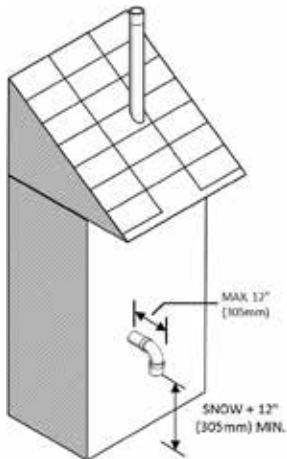

Figure 9: Rooftop vent terminal configurations
- The air intake pipe may terminate on the side wall of the building as long as the air intake terminal is turned down and the side wall of the building is not exposed to large wind loads i.e.: prevailing winds. (see Figure 9)
- You must maintain at least the minimum separation of exhaust vent termination from unit's intake air as illustrated in figures 9, 10 and 13 and 15. Failure to do so can result in a dangerous situation where exhaust gases are pulled in with combustion air. Damage to the unit can result from a failure to maintain these separations. Improper installation will void the warranty.